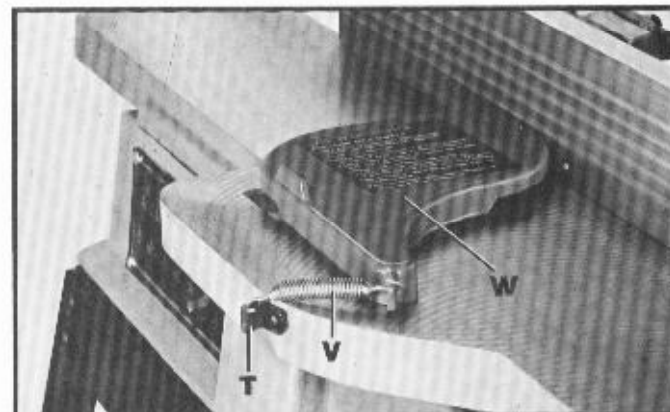

Fig. 12
2. Assemble one end of spring (V) Fig. 12, to the bracket (T), and the other end to cutterhead guard (W), as shown.
3. Place the post on bottom of cutterhead guard (W), into hole in rabbeting ledge as shown in Fig. 12.